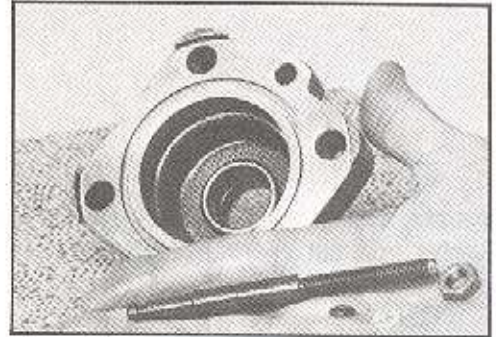

Figure 76
30. Remove the loosened nut (6) from the poppet adjusting screw (9). Then turn the adjusting screw out of the upper cover (7). Remove and discard back washer (10) and O-ring (10A) from adjusting screw. SEE FIGURE 76.